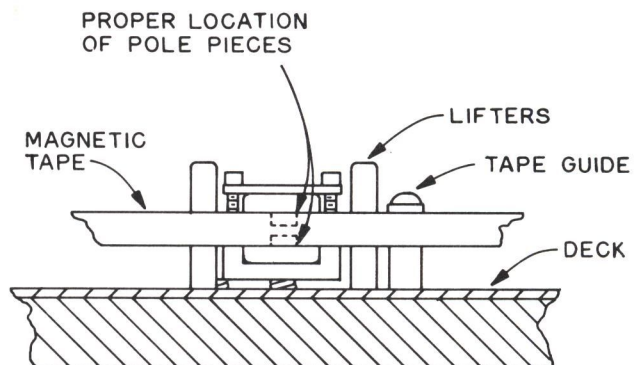

FIGURE 5-8
- a. With the reel of tape loaded properly in the machine, press the start switch and observe the tape travel path over the reproduce head. If the tape does not completely cover both pole pieces as shown in Figure 5-8, alternately and in equal amounts, adjust the forward height screw FH and the rear height screw RH to position the head properly behind the tape.